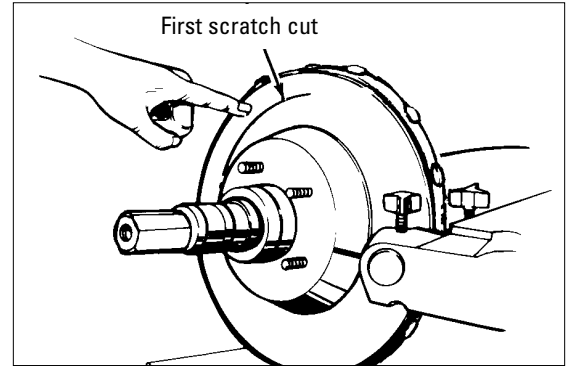

Figure 24 - First scratch cut
**10.** Turn the left-hand tool bit control until the tool bit contacts the rotor surface and makes a scratch cut (figure 24). After the cut is made, back the tool bits off and turn the lathe OFF.